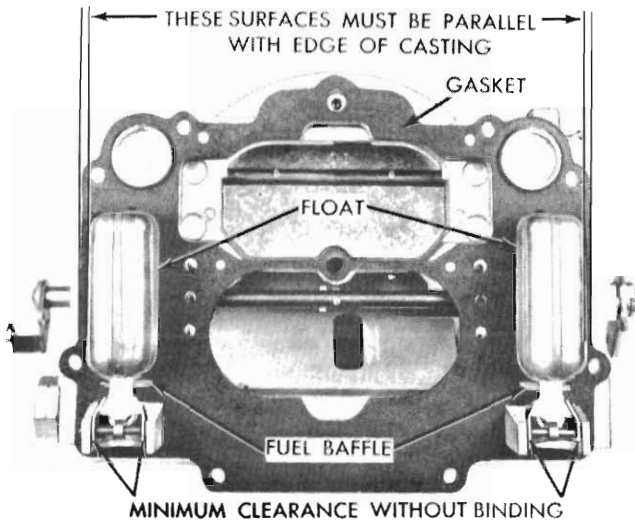

Fig. 7—Checking Float Alignment
(1) Sight down side of each float shell to determine if side of the float is parallel to outer cage of air horn casting (Fig. 7).
(2) If sides of float are not in alignment with edge of casting, bend float lever by applying pressure to end of float shell with thumb. **To avoid damage to the float, apply only enough pressure to bend the float lever.**
(3) After aligning floats, remove as much clearance as possible between arms of float lever and lugs of air horn. To do this, bend float lever. The arms of float lever should be as parallel as possible to inner surfaces of lugs of casting.